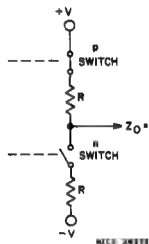

Fig. 3 — Constant output impedance of a buffered gate.
—Buffered—Fig. 3 depicts the buffered output stage and shows the MOS transistor as switched on with a channel resistance R ; R is the same value for the n-switch closed or the p-switch closed.
as buffered (B) types or unbuffered (UB) types by virtue of the squared or rounded transfer characteristics of Figs. 3 and 4, respectively. Even though both types have a single NMOS and single PMOS output transistor, the rounded transfer characteristic of the unbuffered inverters makes them UB types by virtue of:
Output Impedance—Refer to Figs. 3 and 4 and accompanying descriptions of the constant output impedance of buffered gates and the variable output impedance of unbuffered gates. Note that both buffered and unbuffered RCA 2-, 3- and 4-input gates are designed to meet the same maximum output impedance; output current ratings (IOL and IOH) have the same minimum limit on RCA data sheets.